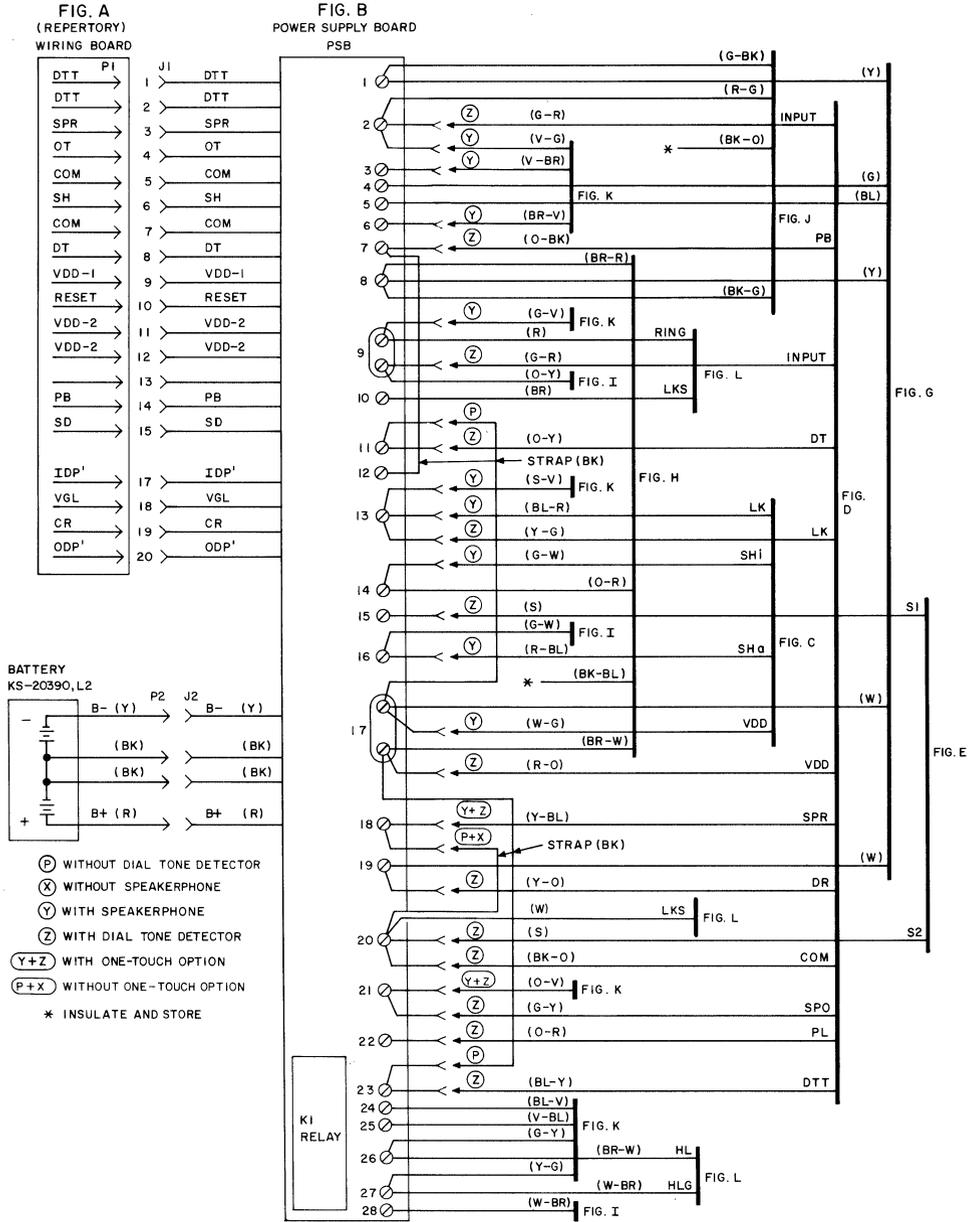

Fig. 8—872A1M Telephone Set, Connections (Sheet 1 of 4)
- (8) Make connections [Fig. 8(H)].
- (9) Reassemble set.